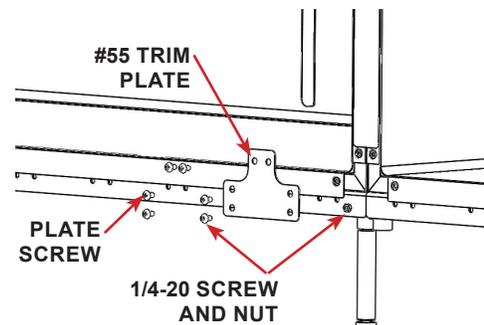

FIGURE 2.30 - Trim Plate #55
- STEP 22:** Install, but do NOT fully tighten screws, trim plate (#55) using the screws removed in the previous step. The bottom holes require 1/4-20 screws and nuts to secure the cage to the platform frame. Repeat this step for each cage added to the row. See FIGURE 2.30